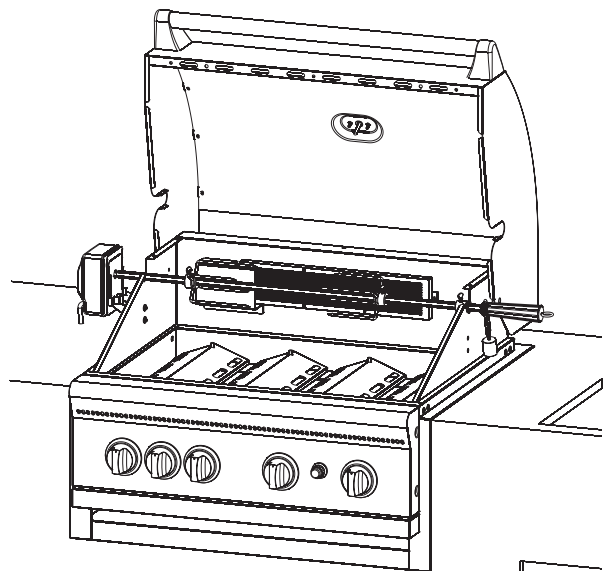

Figure 11
12. Slide a rotisserie fork onto each end of the spit. See Figure 11.
14. Slide the bushing onto threaded end of spit. Insert spit into slot of motor on left side of grill and place bushing into slot on right side of grill. Tighten thumbscrew on bushing. See Figure 11.